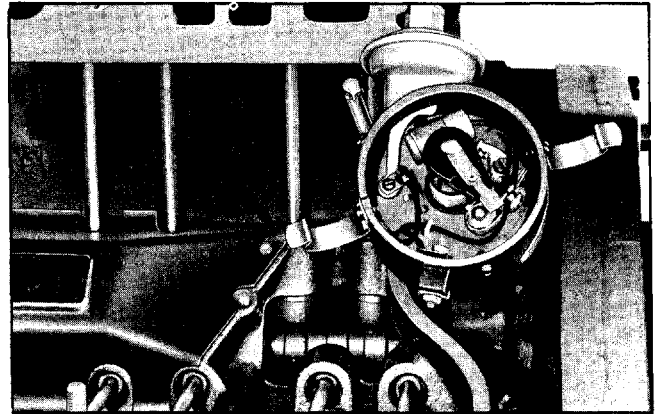

Fig. 12-55 Relationship of Distributor Housing and Rotor in Firing Position for No. 1 Cylinder
3. Install distributor in block so that vacuum diaphragm faces the right side of the engine and rotor points toward contact in cap for No. 1 cylinder. Before installing distributor, index rotor with housing as noted when distributor was removed. This will simplify indexing the distributor shaft and gear with the oil pump drive shaft and the drive gear on the camshaft. Distributor and rotor will be positioned as shown in Fig. 12-55 when properly installed with No. 1 piston in firing position.